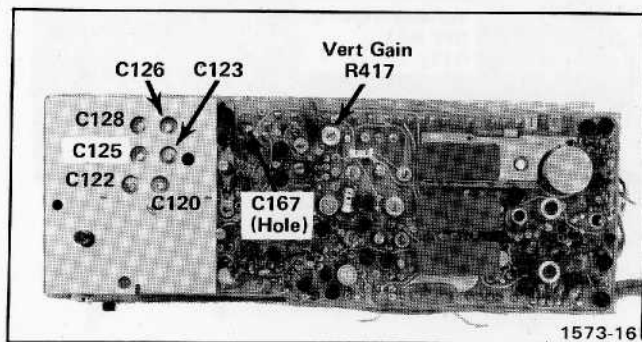
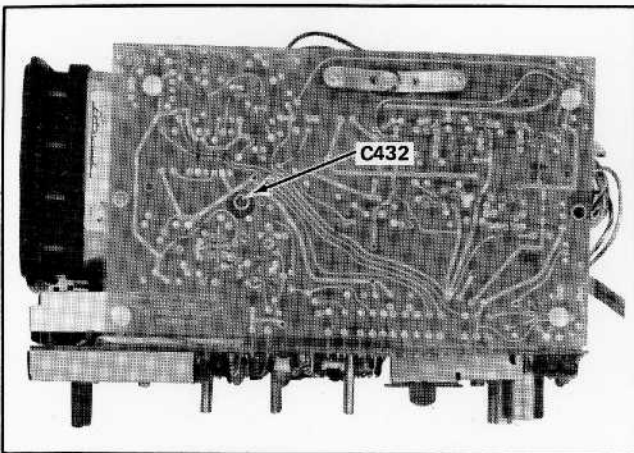

Fig. 5-6. Location of attenuator compensation and Vertical Gain adjustments.
Fig. 5-7. Location of Bandwidth response adjustment.
a. Set the VOLTS/DIV switch to .2 and, set the SEC/DIV switch to .1 m. See Fig. 5-6 for location of attenuator adjustments.
g. Adjust R417 for a display of four divisions within 2%. See Fig. 5-6.
- g. Adjust C432 (Bandwidth response) for the fastest rise time. See Fig. 5-7.
- i. Adjust C167 for a flat top with minimum aberrations (a slight readjustment of the C432 might be necessary for a flat top with no overshoot). See Fig. 5-6 and Fig. 5-7.